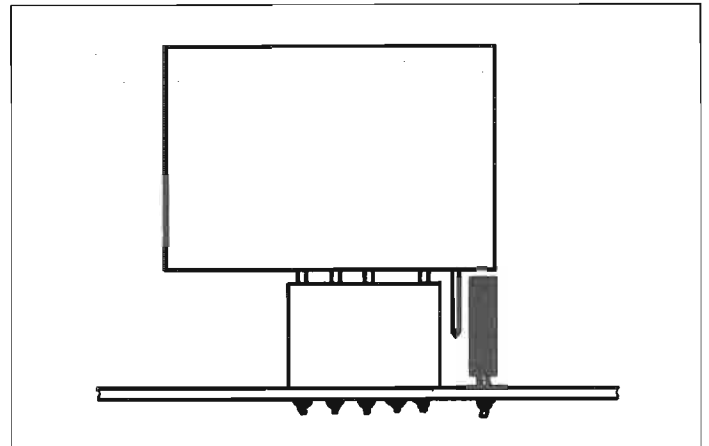

Fig.3.5
- The small 6-pin PCB (1.179.183.21) of the cable harness is plugged into the 5-pin CIS socket (item B on ARM ELECTRONICS PCB) in such a way that one of the connecting pins between the CIS socket and the capacitor remains vacant (see Fig. 3.5). The connector that previously occupied this location is connected to the socket on the smaller PCB 1.179.183.21. (Check that the coding is correct, one terminal of the socket must remain vacant.)